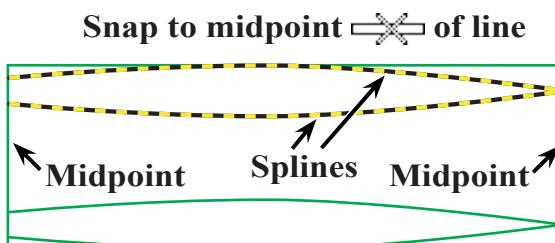

Fig. 7
Step 2. Click **both splines** and click **End Selection**  (ENTER) **Fig. 7**.
Click **midpoint of both vertical lines of rectangle**, **Fig. 7**